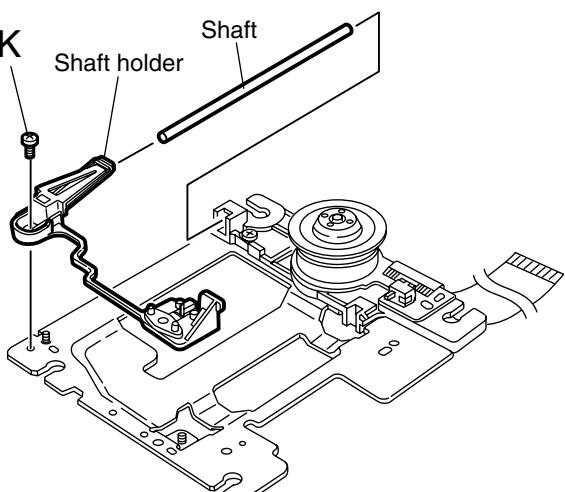

Fig.18
■Removing the shaft holder / shaft (See Fig.18)